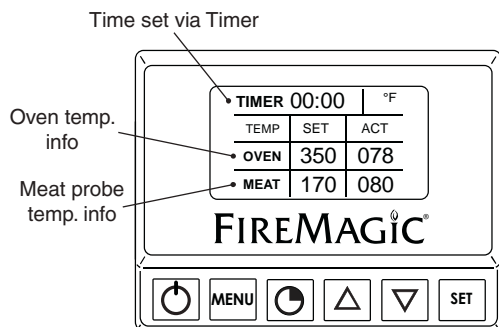

Fig. 19-3 Default screen detail
**Press the power button to turn the thermometer ON.** The default screen will be displayed. Temperatures for the oven and meat probe will be shown (Fig. 19-3). See below for options under the default screen.